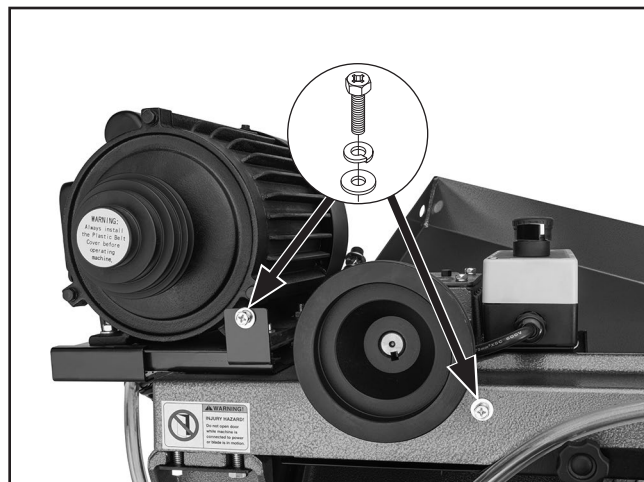

Figure 24. Location of pulley cover fasteners.
3. Remove (2) pre-installed hex bolts, lock washers, and fender washers from pulley area (see **Figure 24**).